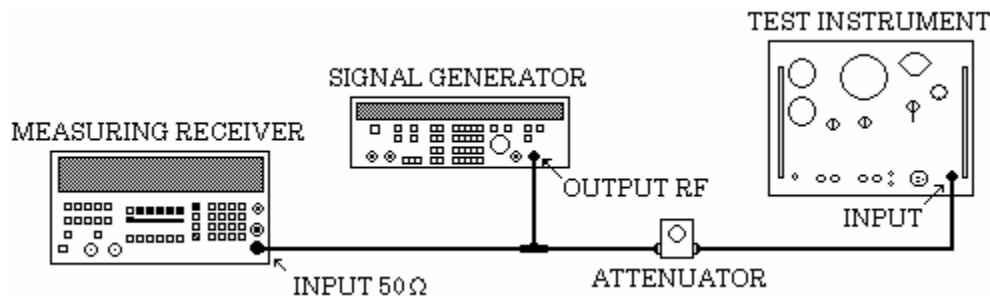

Figure 2. Frequency deviation - equipment setup.
- (1) Connect equipment as shown in figure 2.